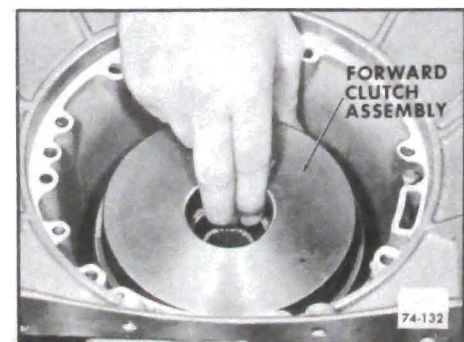

Figure 74-310
1. Install forward clutch assembly turning to engage low sun gear with planet pinions. See Figure 74-310.